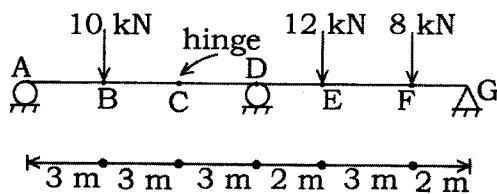

Fig. 2.1
2. (a) A beam ABCDEFG, 16 m long, has hinged support at G and roller supports at A & D. The beam has internal hinge at point C. The beam carries three vertical loads as shown in Fig. 2.1. Calculate (i) support reactions at A, D and F (ii) Draw SFD and BMD (iii) locate point of contraflexure. (15)